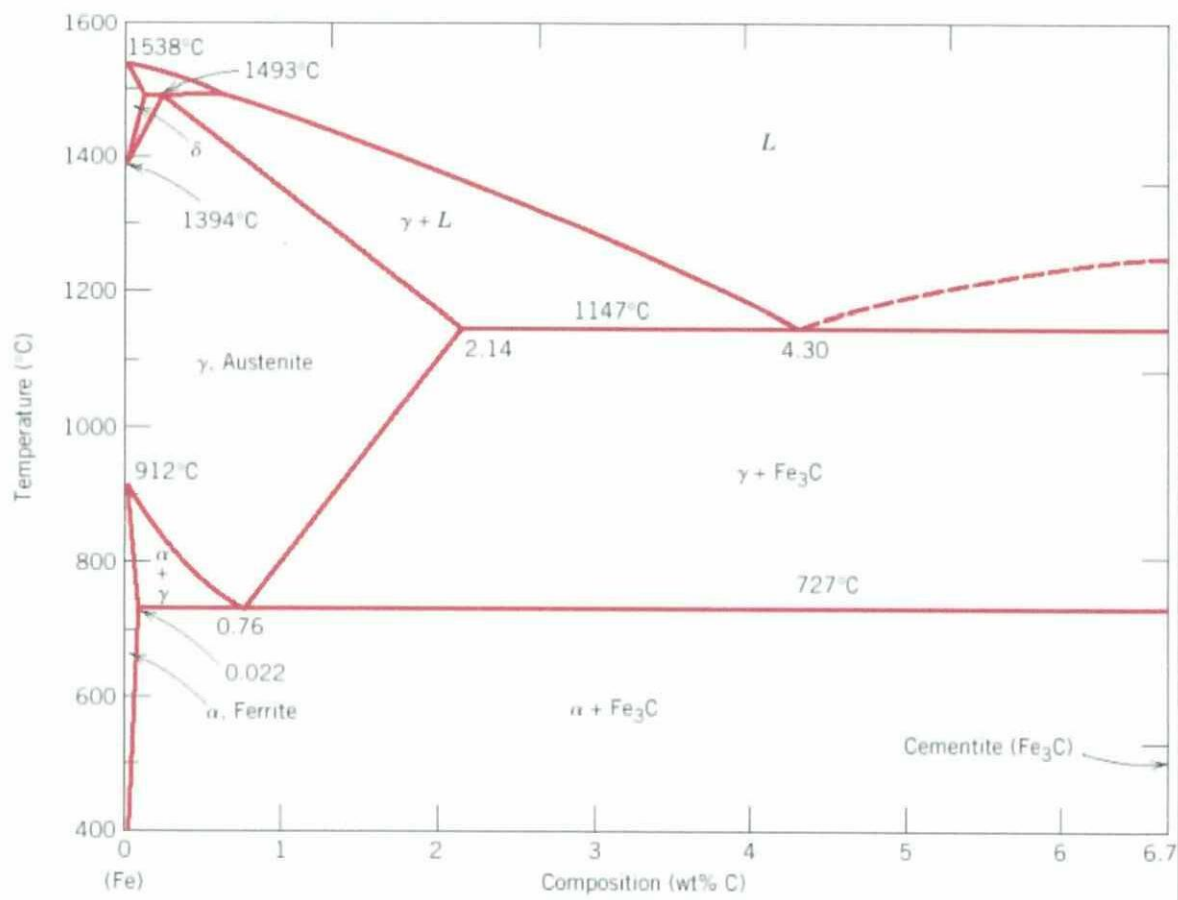

Figure Q2
**Q2** **Figure Q2** represents the phase diagram of Fe-Fe3C phase diagram.